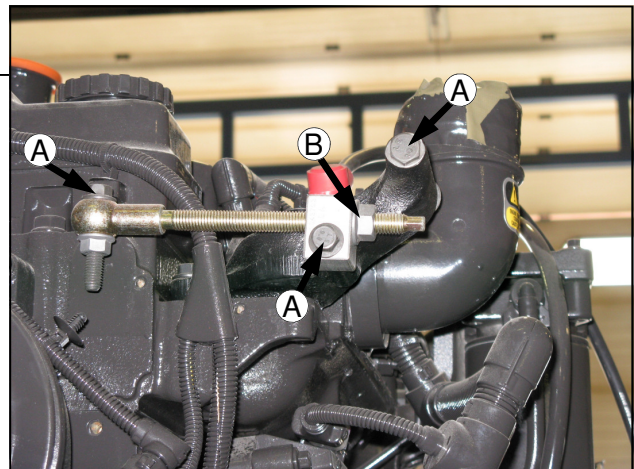

FIG 96-4
**A/C COMPRESSOR BELT**– To tighten the air conditioner compressor belt, loosen the three bolts (fig. 96-4, item A) and the nut (fig. 96-4, item B) on the compressor mount. Loosen the bolts and nut just enough to be able to turn the adjustment spindle.